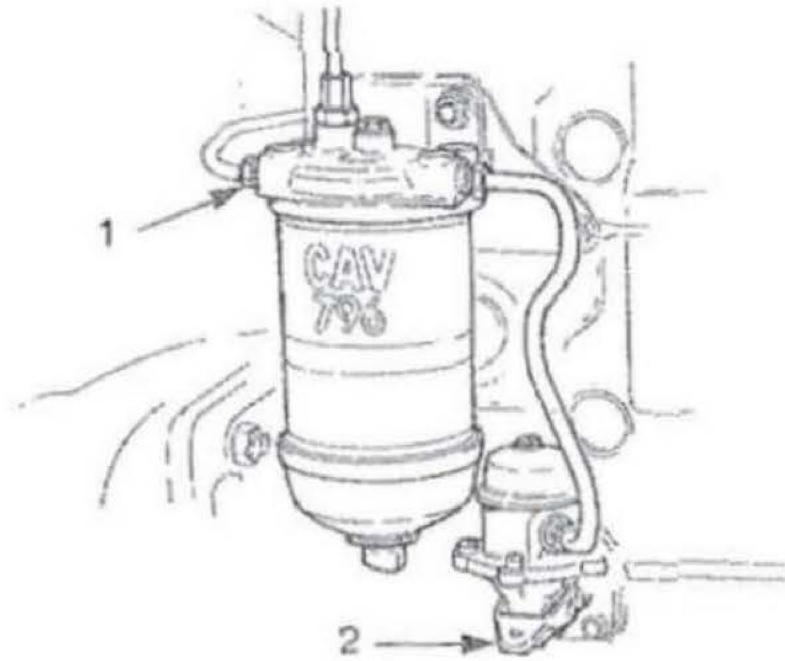
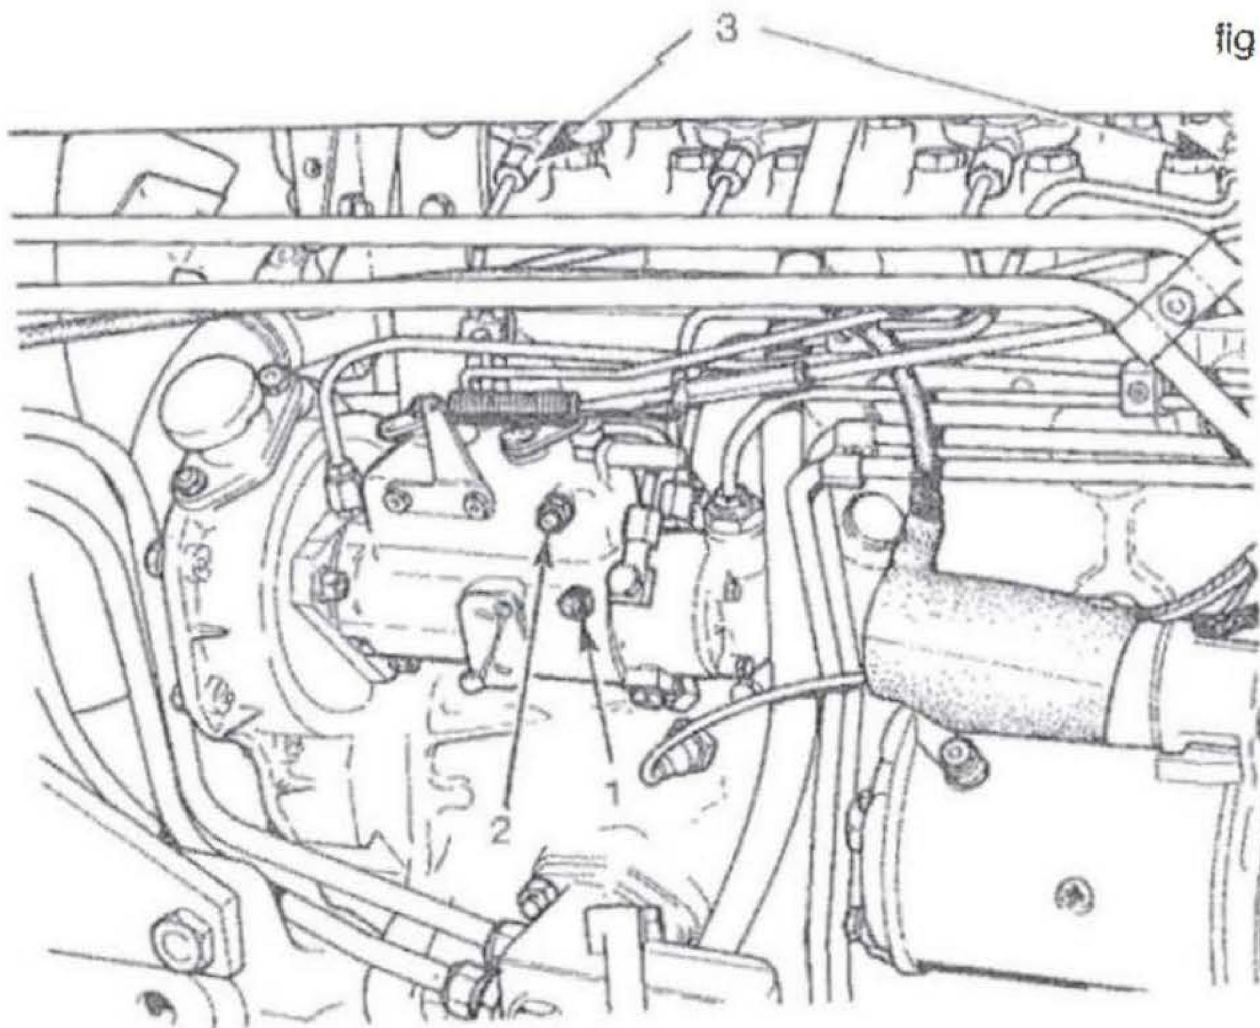

fig 60
fig 61
1. Figure 60. Slacken the outlet union on the fuel filter (1).
2. Operate the hand priming lever (2) on the fuel lift pump until fuel, free of air bubbles, issues from the union, then retighten the union.
3. Figure 61. Slacken the lower vent plug (1) on the fuel injection pump and operate the fuel lift pump until fuel, free of air bubbles issues from the vent, then retighten the vent plug.
4. Slacken the upper vent plug (2) on the fuel injection pump and operate the fuel lift pump until fuel, free of air bubbles issues from the vent, then retighten the vent plug.
5. Slacken the unions (3) at numbers one and four injectors.